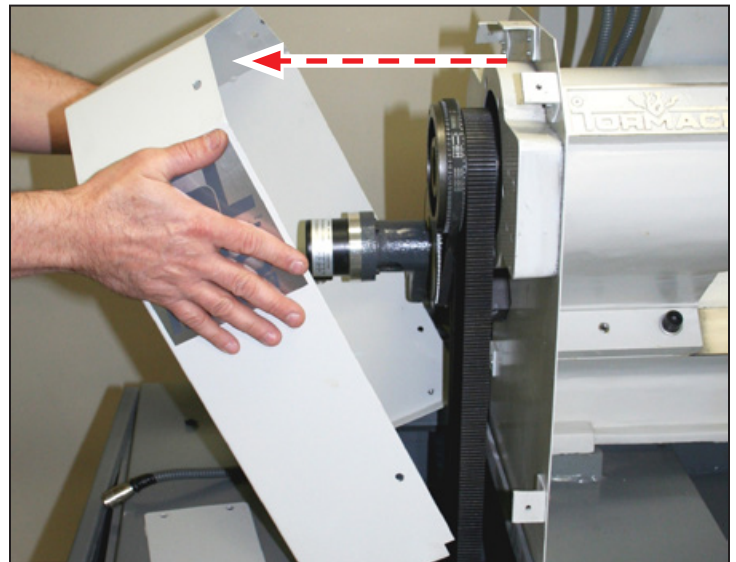

Figure 3
3. Loosen five Phillips-head screws securing belt guard cover to lathe; remove cover and set all aside (see **Figure 3**).